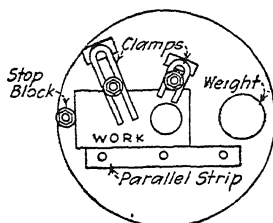

FIG. 201.
**229. Typical Faceplate Setups.**—Figure 201 shows a flat piece of cast iron clamped to the faceplate located by means of a parallel strip and stop block. This piece has been indicated to drill and bore a hole at one end. With the work in the position shown it would be out of balance were it not for the weight used as a counterbalance.